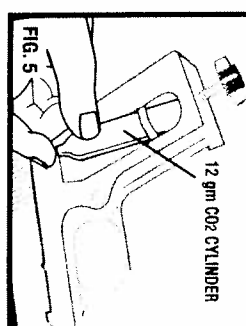

FIG. 5
D. Turn puncture screw counterclockwise until there is enough room to insert a CO2 cylinder. Insert the large end of the CO2 cylinder into the lower portion of the grip. Hold the gun in an inverted position with the grip pointing up and the muzzle pointing away from you as shown (Fig. 5). Position the small end of the CO2 cylinder inside the retainer so that
the CO2 cylinder touches the puncture pin (Fig. 5).